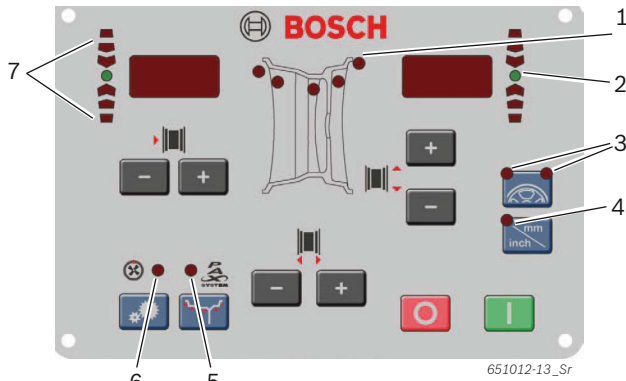

Fig. 5: LEDs on control/display panel
- The LEDs (Fig. 5, Item 1) indicate the positions of the balancing levels for each balancing program.
When a PAX balancing program is selected, the Pax LED (Fig. 5, Item 5) also lights up.
- ⇒ Both <SPLIT> button LEDs (Fig. 5, Item 3) light up.
- ⇒ As soon as the position for attaching the balancing weight is reached, the LED (Fig.5, Item 2) lights up. An acoustic signal confirms that the position is correct (behind a spoke).